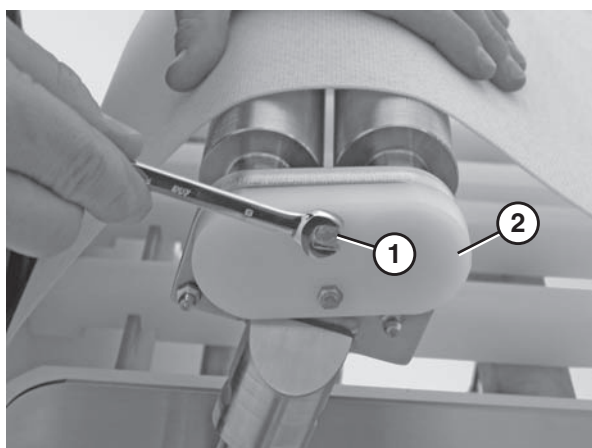

Figure 82
2. Remove the transfer bearing screws (**Figure 82, item 1**) and the cover (**Figure 82, item 2**) using an 8 mm wrench.